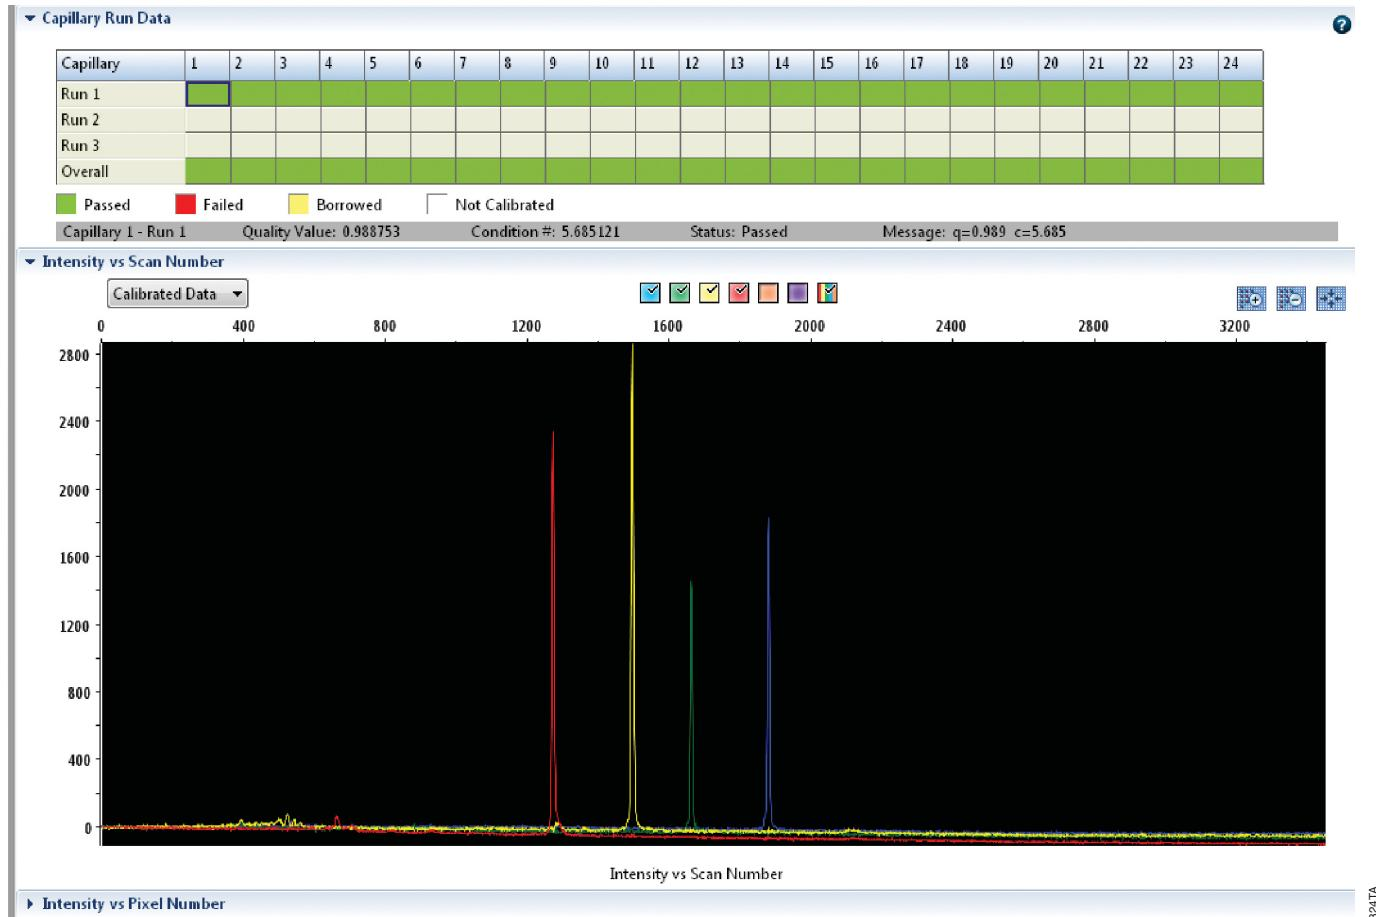

Figure 4. The Capillary Run Data display.
3. If fewer than the recommended number of capillaries pass, the spectral calibration run may be repeated automatically up to three times. Upon completion of the spectral calibration, check the quality of the spectral in the Capillary Run Data display (Figure 4), and choose either “Accept” or “Reject” (not shown).